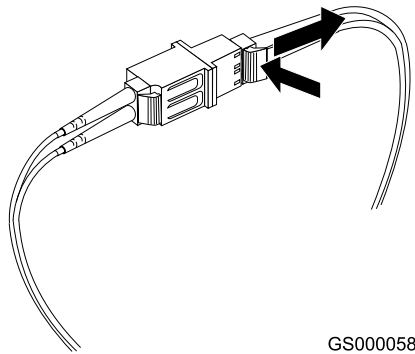

Figure 16. Removing the LC-LC Fibre Channel cable from an LC-SC Fibre Channel cable adapter
2. Carefully pull on the connector to remove it. Make sure you grasp the connector and not the cable when you remove the LC-LC cable from the LC-SC cable adapter, as shown in Figure 16.